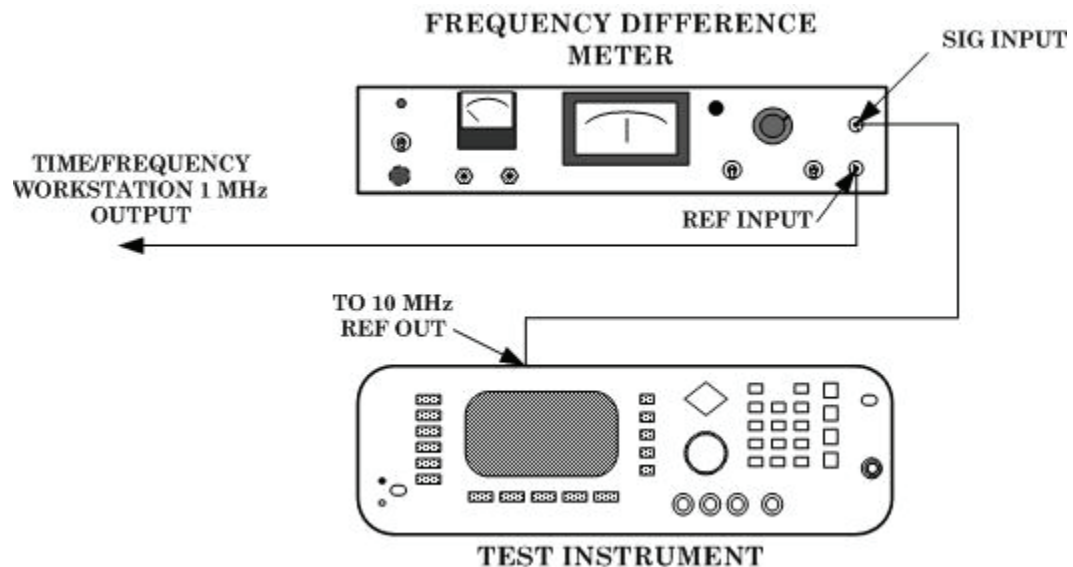

Figure 1. Time base verification hook-up.
- d. Connect equipment as shown in figure 1.